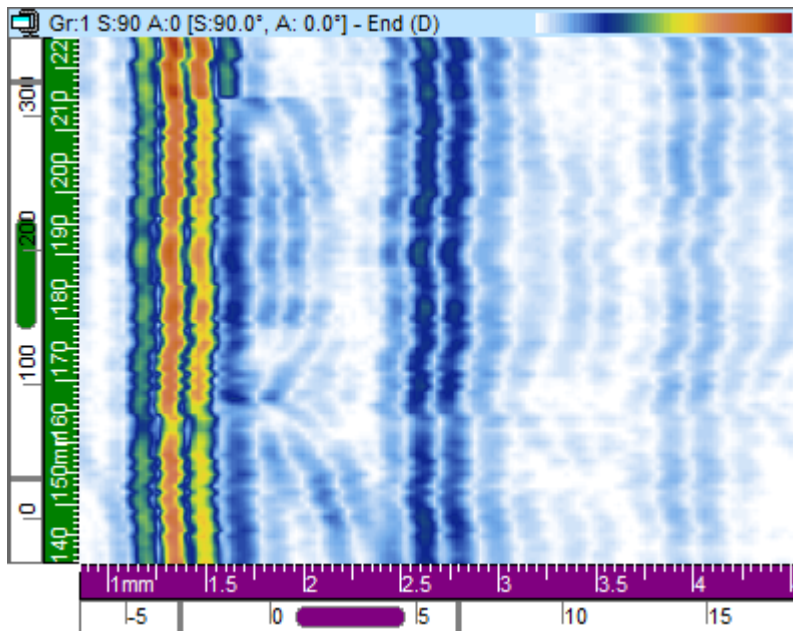

Figure 3-25 Example of End (D) view
The **End (D)** view (see Figure 3-25 on page 106) is a two-dimensional graphical presentation of the recorded data. One of the axes is the defined index axis; the other is the uncorrected ultrasonic (USound) path. The position of the displayed data is related to the encoder positions at the moment of acquisition. At a given position on the projected image, the color corresponds to the maximum amplitude at this position as detected in the considered scan-axis range.